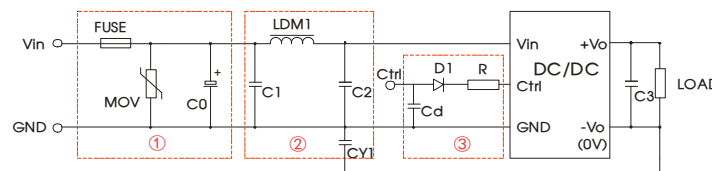

Fig. 3
- ① For EMC tests we use Part ① in Fig. 3 for immunity and part ② for emissions test. Selecting based on needs.
- ②  $V_C$  is the voltage of the Ctrl end relative to the GND of the input grounding;  $V_D$  is the positive-going conduction pressure drop of D1;  $I_C$  is the current flows into the Ctrl end and its value is generally 5-10mA, see Fig. 3-③ for the peripheral circuit of Ctrl end;
- ③ If there is no recommended parameters, no external component is required.